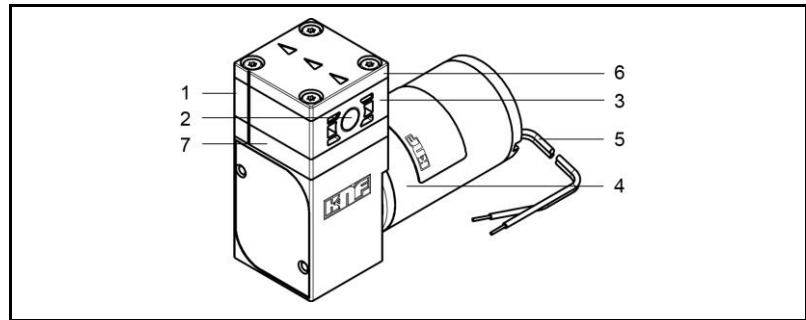

Fig. 1: Diaphragm liquid pump NF 100
* The pump head (Fig. 1) comprises a connecting plate and an intermediate plate